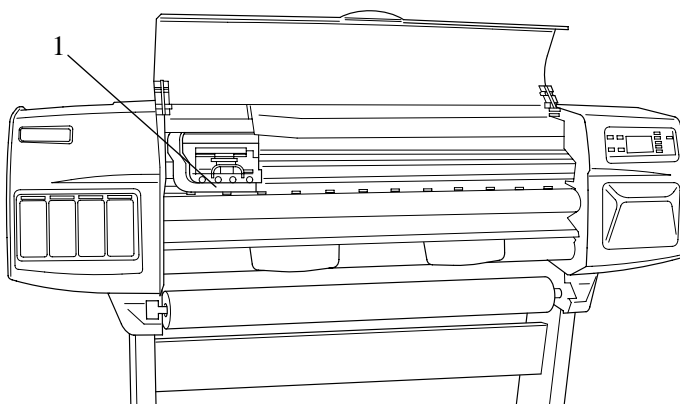

Figure 60: Printhead Tube Connector
2. Move the carriage to a position where you can access the printhead tube connector (Refer to Figure 60).